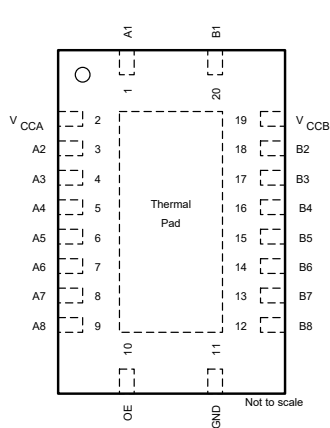

Figure 4-3. RGY/RKS Package (Top View)
- Figure 4-3. RGY/RKS Package (Top View)**